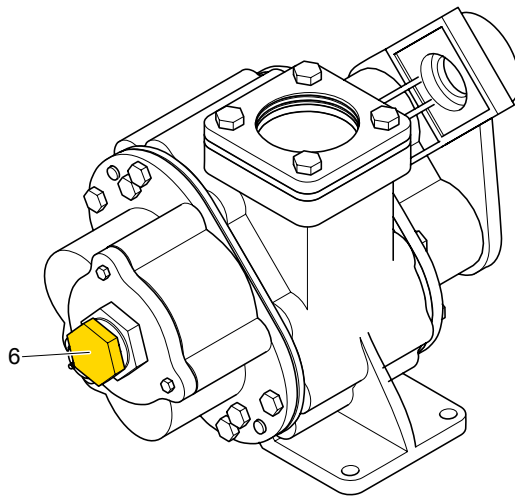

Figure 6: Valve
6. Loosen the pump Adjuster screw (Fig. 6 [6]) by ½ turn.
a) Adjust Valve: Loosen the BLT005532 [6]. (Fig. 6)